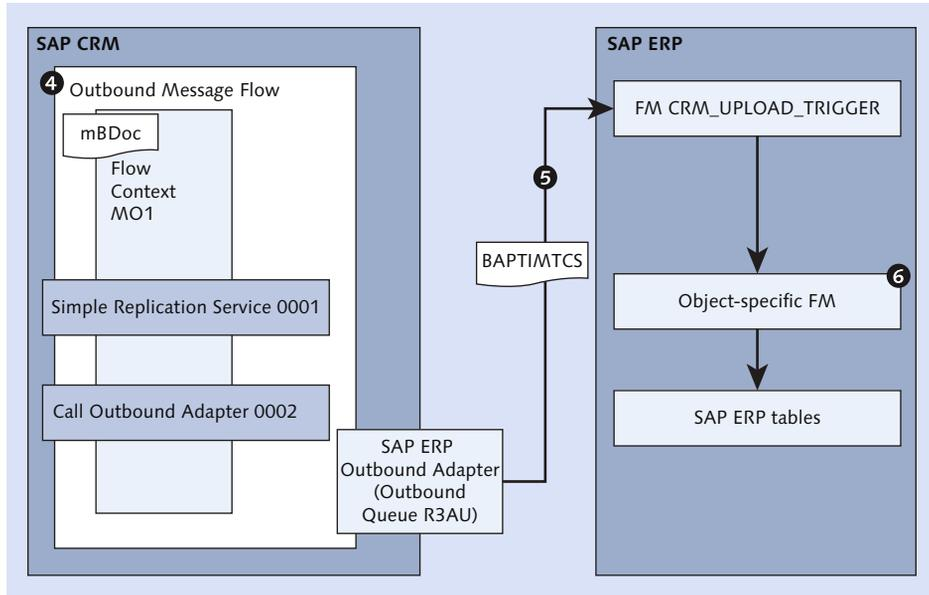

Figure 3.30 Outbound Flow from SAP CRM to SAP ERP
- ❶ Changes are made in the master data, or new records are created in SAP CRM triggering the creation of the mBDoc in the SAP CRM system.
- ❷ After the mBDoc is created, the SAP CRM adapter is called to trigger the outbound message. The outbound message flow consists of the flow context MO* that triggers the validation services.
- ❸ The outbound message flow triggers the flow context MO*, which triggers the validation services. These can be viewed via Transaction SMO8FD for specific business objects. If the replication is happening for one specific instance, then MO1 flow context is called. If there are multiple instances where the replication should occur, then MO2 flow context is called. Within this step, the data is controlled by the administration console as one of the validation checks. If the subscription for the specific business object isn't maintained, then the SAP ERP (R/3) outbound adapters aren't called. After all validation services are successful, the SAP ERP outbound adapter is called.
- ❹ In Figure 3.30, the SAP ERP outbound adapter has the mapping function module to load the data to the SAP ERP system. The SAP ERP outbound adapter is called to convert the mBDoc into BAPIMTCS structures.